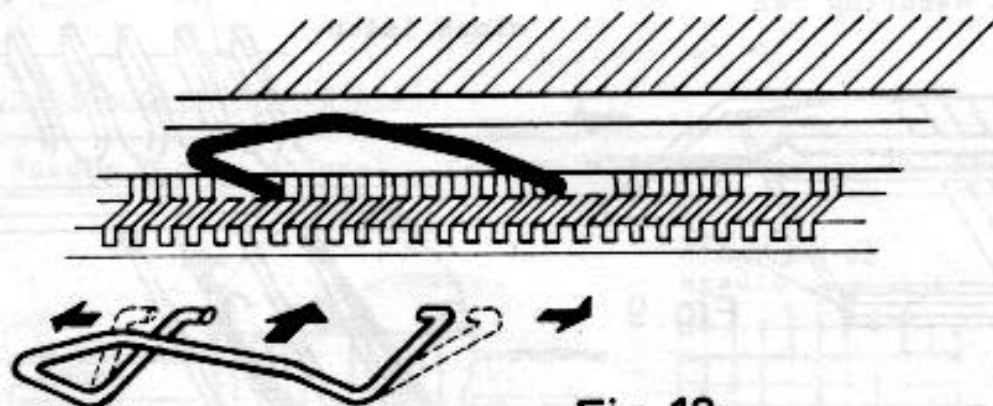

Fig. 12
- ④ Slide racking handle into tube
- ⑤ Set up trip wire (s. page 8, fig. 12)
- ⑦ Clamps for fixing to the table